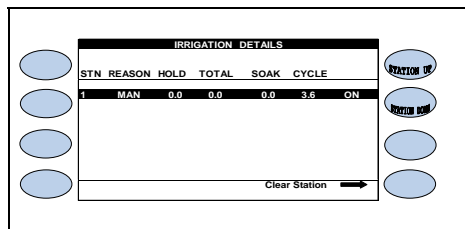

Figure 6.15
2.  Press the **DETAILS** Menu key to access the IRRIGATION DETAILS screen (Figure 6.15).